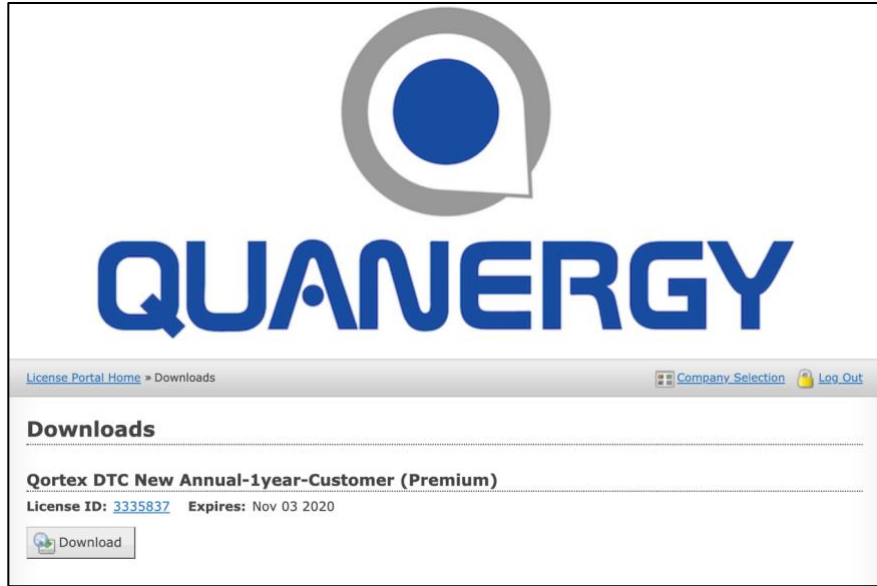

Figure 8. Customer License Portal Downloads Page
4. On the License Portal Downloads page, click the **Download** button for access to QORTEX DTC 2.4 software and documentation. See *Figure 8. Customer License Portal Downloads Page*.